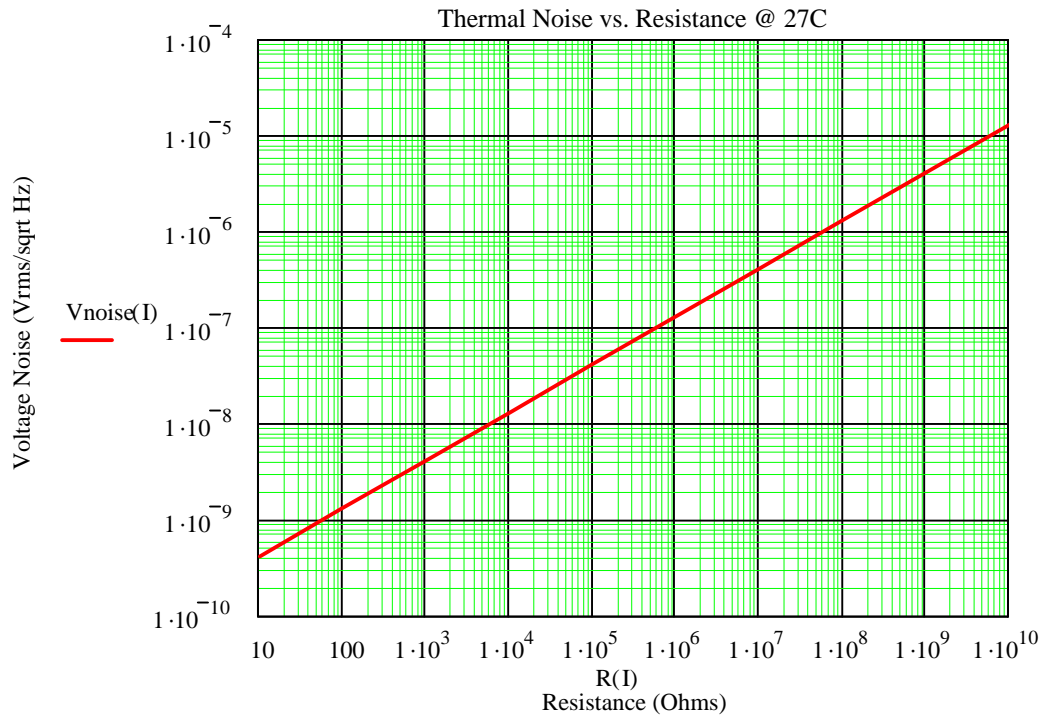

Figure 10. Johnson (Thermal) rms voltage noise vs. resistance at room temperature.
4. A plot of V_{jn} per square root-Hz for a range of resistance values at room temperature is shown in Figure 10.